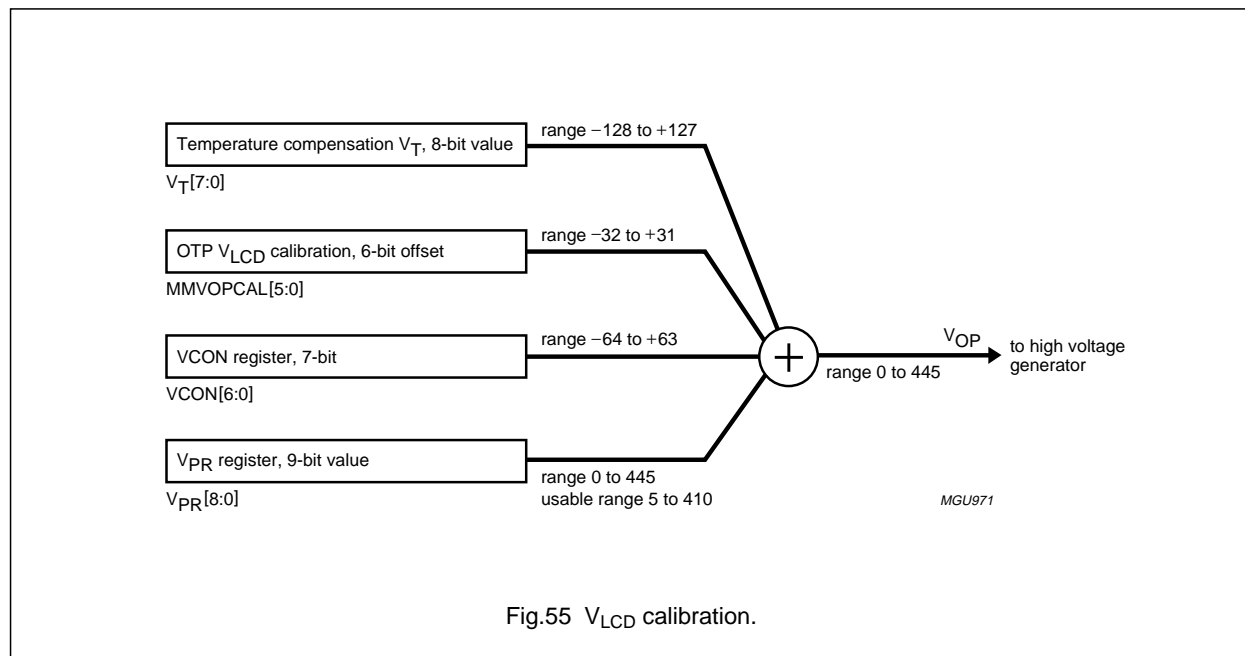

Fig.55  $V_{LCD}$  calibration.
Figure 55 illustrates how the high voltage generator setting  $V_{OP}$  is controlled. Compared to equation (1) in Section 6.2.31, Fig.55 also takes the temperature compensation  $V_T$  into account (see Section 6.2.40), which is reflected in the following equation: